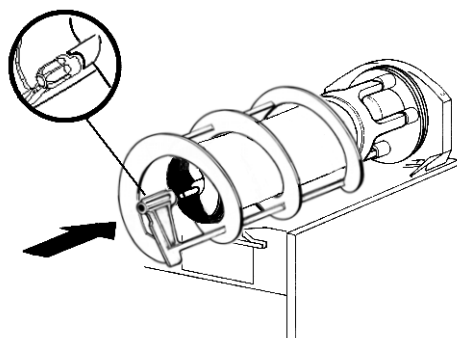

figure 16
- 6 Install the outer spiral. Slide it over the evaporator until its front notch engages with the exposed end of the auger shaft (see figure 16).